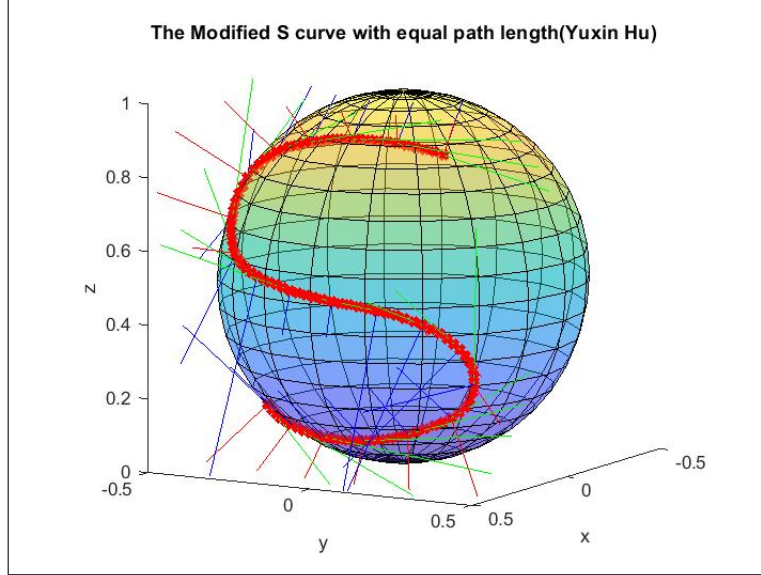

Figure 2: The unit quaternion representation plotted on the sphere
(1)The same as the one in the example code, the unit quaternion is displayed by the `plotTransforms` function in matlab, that shows a frame at each point. The result is shown in figure 2.